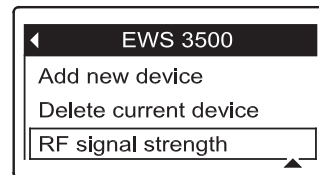

FIG. 105
3. Press the DOWN (▼) button to scroll through the menu options until **RF signal strength** is highlighted in a box (See Figure 105).